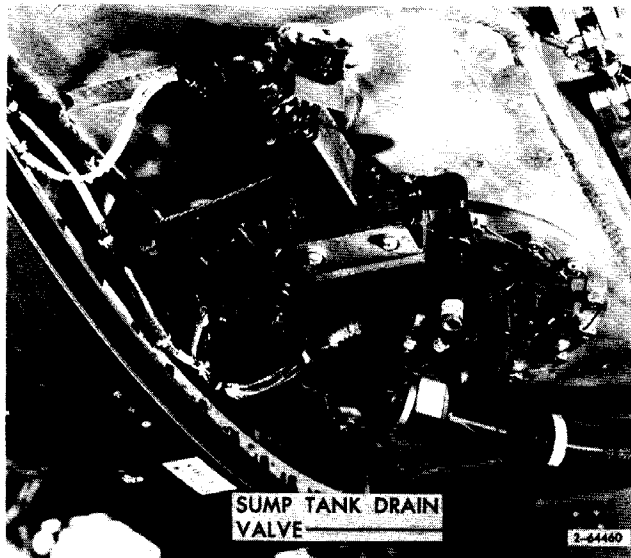

Figure 3-34. Sump Tank Area
- a. Place suitable container beneath sump tank drain valve (figure 3-34).